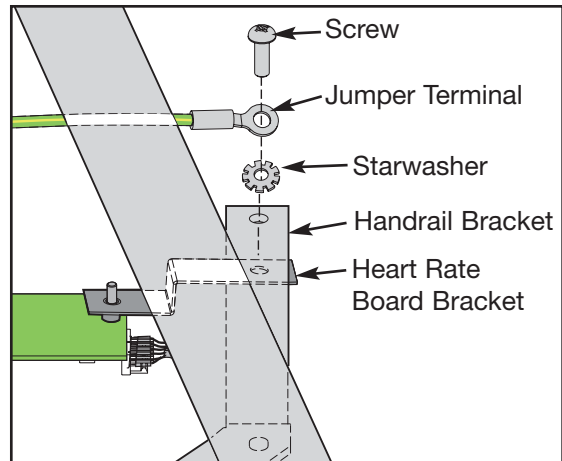

Figure 28
- Using a Phillips head screwdriver, remove the nine **black** screws securing the console front to the handrail. **NOTE:** Do not lose the screw and starwasher shown in Figure 28.
- A. Place the starwasher next to the handrail bracket metal and hold the jumper terminal on top. See Figure 28.
- B. Place the Phillips head screw removed in step 4A through the terminal, starwasher, handrail bracket and heart rate bracket and secure it tightly using a screwdriver. See Figure 28.